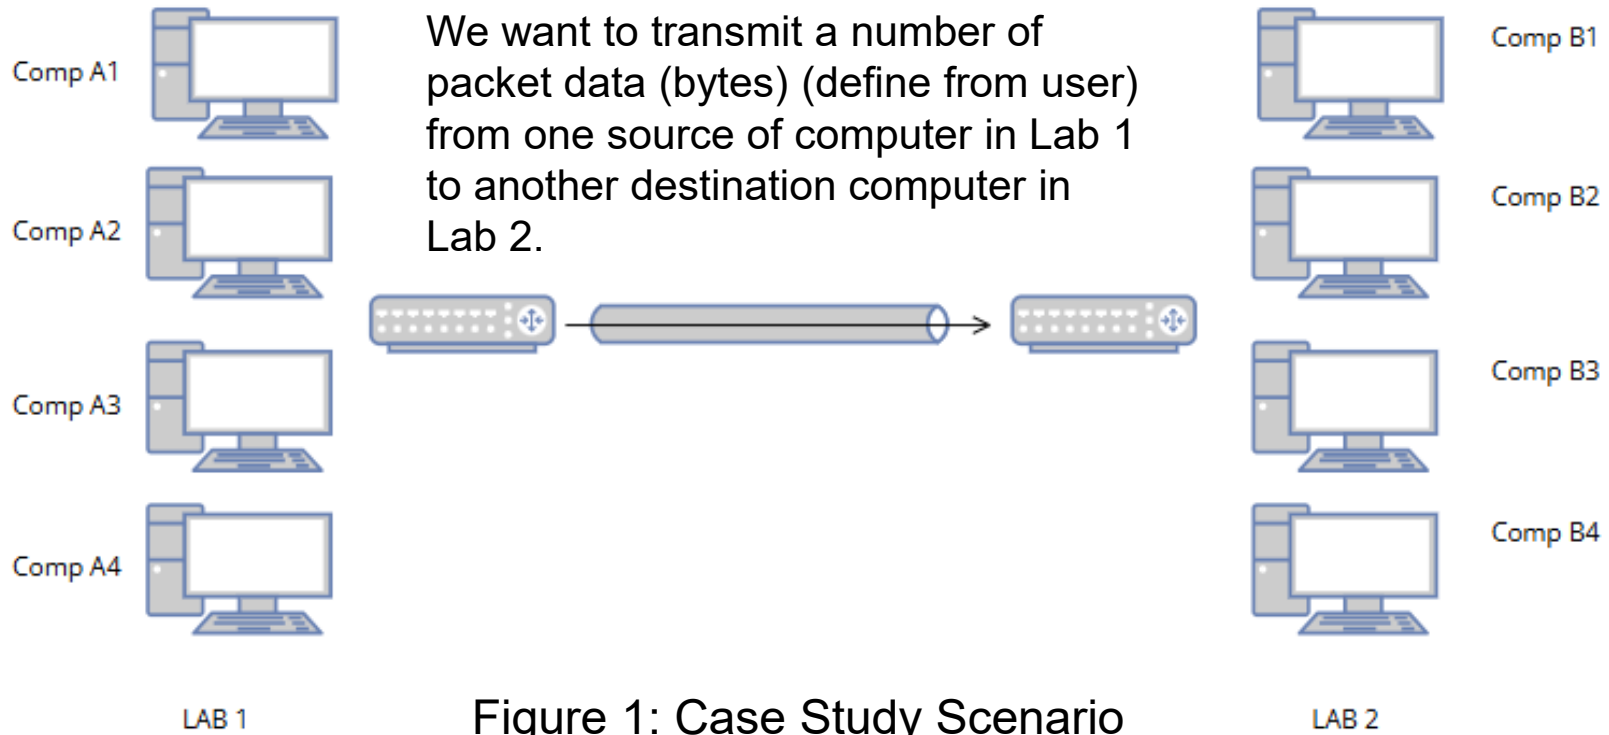

Figure 1: Case Study Scenario
- Refer Figure 1 and Figure 2 ...